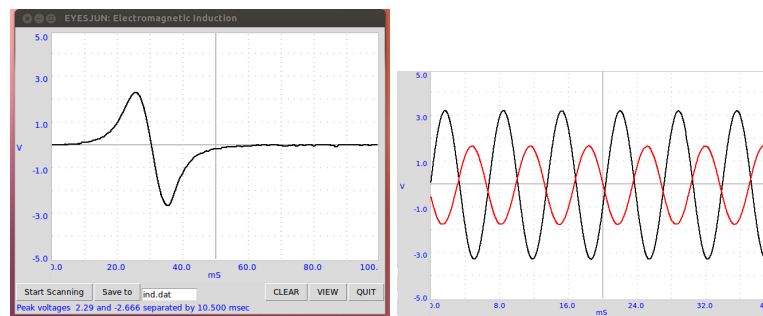

Figure 3.1: (a) Voltage induced on a coil by a moving magnet. (b) Mutual Induction between two coils, the applied and induced voltages are shown
**Observation** The result is shown in figure 3.1(a). The amplitude increases with the speed of the magnet. From the graph, we can find the time taken by the magnet to travel through the coil.
**Observation** The applied waveform and the induced waveform are shown in figure 3.1(2). A changing magnetic field is causing the induced voltage. In the previous two experiments, the changing magnetic field was created by the movement of permanent magnets. In the present case the changing magnetic field is created by a time varying current.